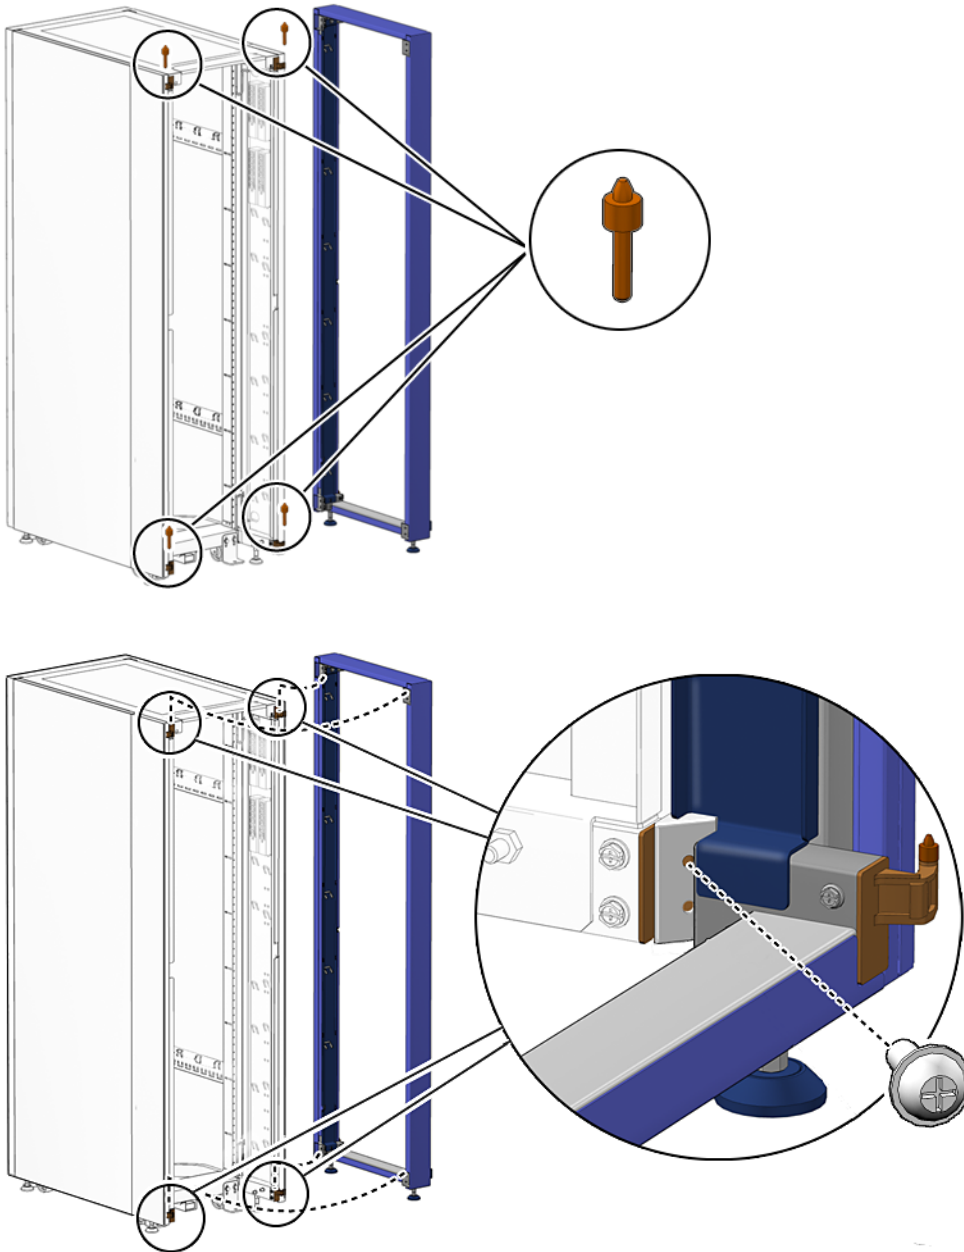

FIGURE 2-3 Installing Four Hinge Pins, the Cabinet Extension, and Angle Bracket Screws
| FIGURE 2-3 | Installing Four Hinge Pins, the Cabinet Extension, and Angle Bracket Screws | 8 |
4. Install the two provided hinge pins onto the unused hinges, one on the top of the cabinet and one on the bottom of the cabinet (FIGURE 2-3).
5. Position the cabinet extension over all four hinge pins and lift the cabinet extension into place (FIGURE 2-3).
6. Secure the angle bracket phillips screws into the side of all four hinges (FIGURE 2-3).